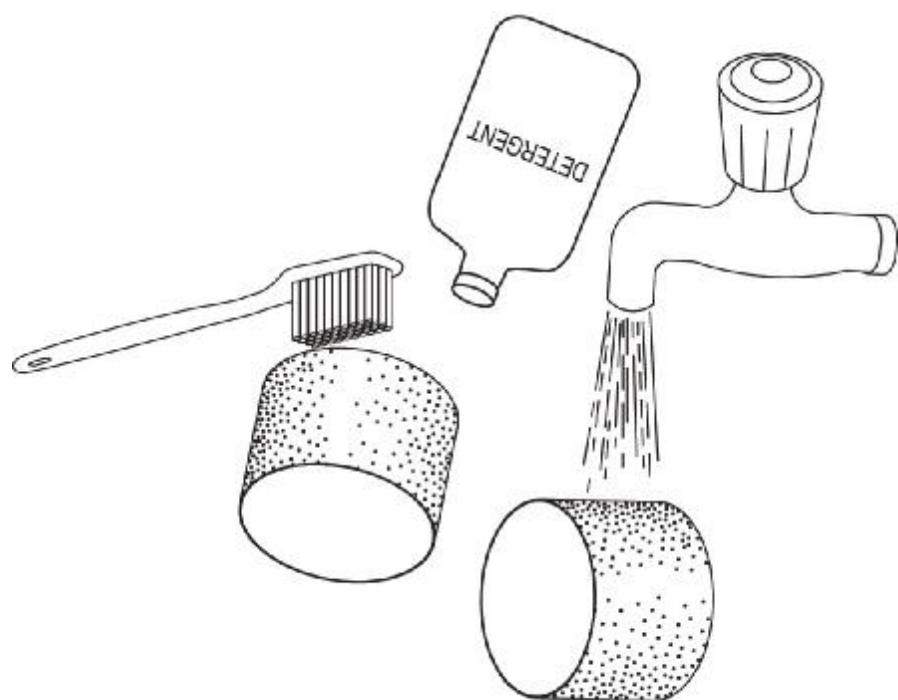

Fig. 18
- 2) **CLEANING SHARPENING WHEEL:** To clear debris from sharpening wheel, use a brush (**hard bristles**) with detergent scrub off debris and rinse with clean water. Allow at least 24 hours to completely dry before using it again (see fig 18).